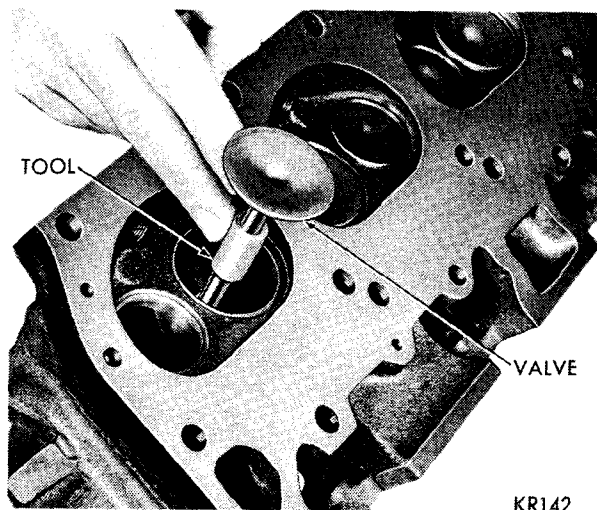

Fig. 8—Installing Valve and Tool C-3973
(1) Clean valves thoroughly, and discard any burned, warped, or cracked valves.
(2) Measure valve stems for wear. Refer to specifications for proper size. If wear exceeds .002 inch, replace the valve.
(3) Remove carbon and varnish deposits from inside of valve guides with a reliable guide cleaner.
(4) Measure valve stem guide clearance as follows: Install sleeve Tool C-3973 over valve stem (Fig. 8) and install valve.